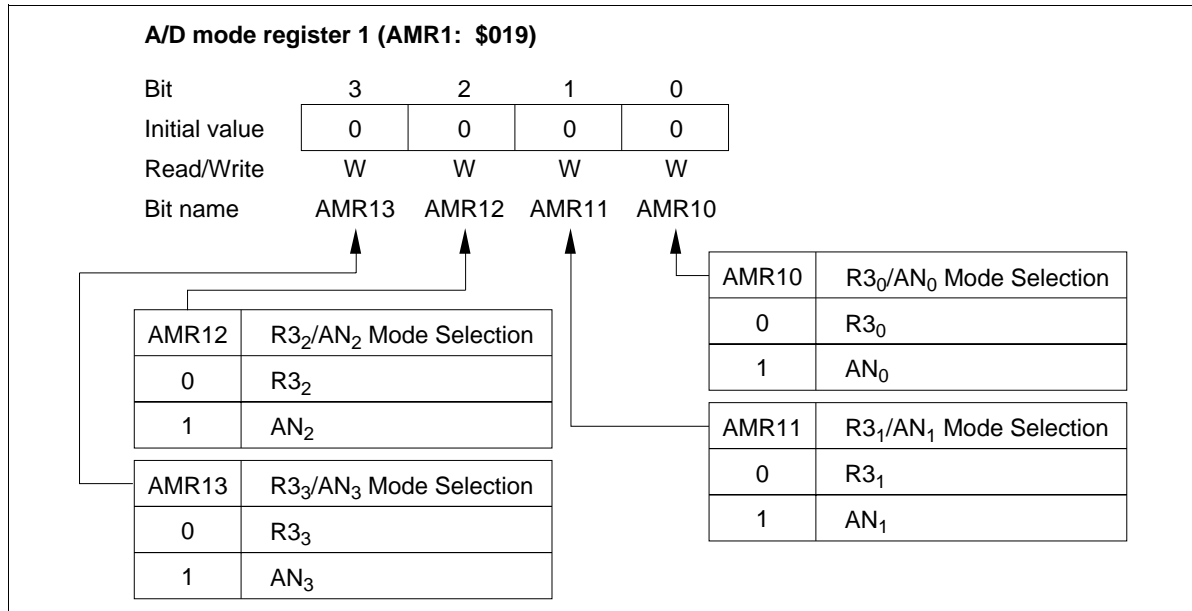

Figure 63 A/D Mode Register 1 (AMR1)
**A/D Mode Register 1 (AMR1: \$019):** Four-bit write-only register which selects digital or analog ports, as shown in figure 63.